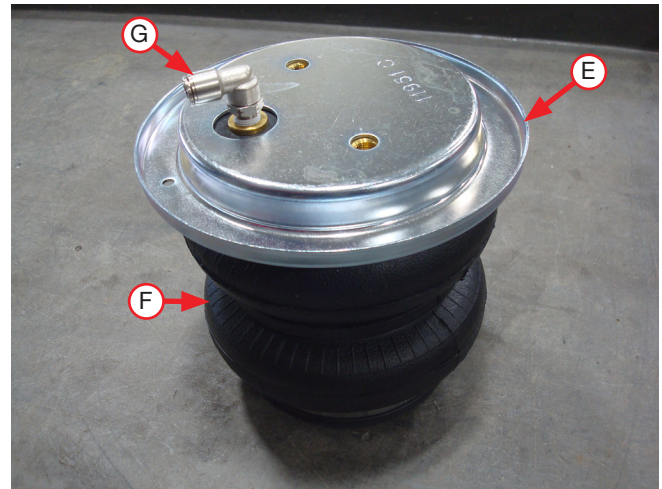

Fig. 8
1. Set a roll plate (E) over the top of the air spring (F). Install the swivel fitting (G) into the air port on the air spring. Tighten the fitting one and a half turns past finger-tight (Fig. 8).